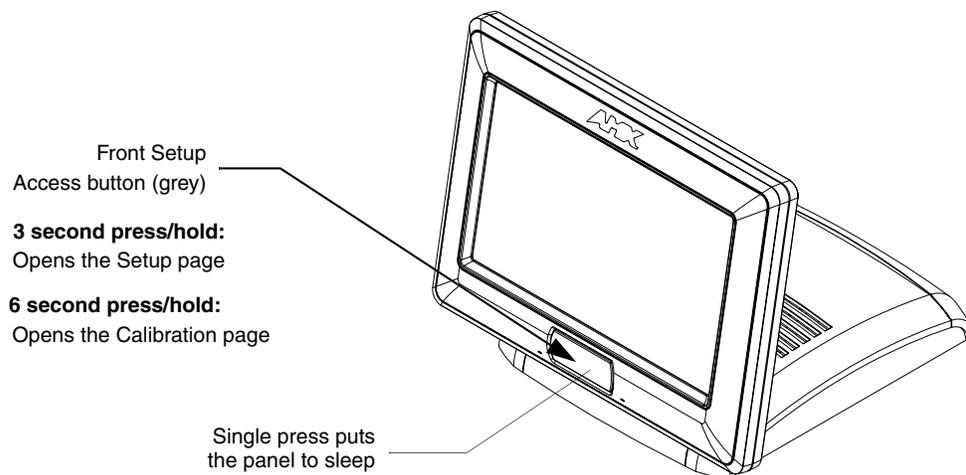
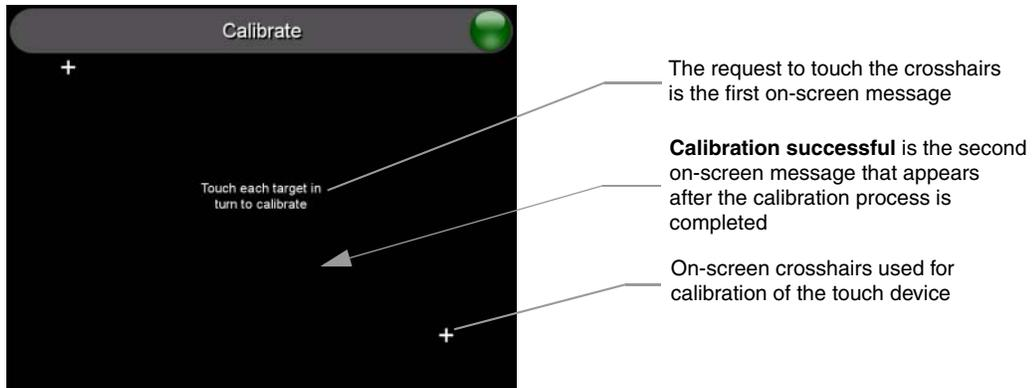

FIG. 44 Location of Front Setup Access button
FIG. 45 Touch Panel Calibration Screens
1. Press and hold the grey Front Setup Access button (FIG. 44) for **6 seconds** to pass-over the Setup page and access the Calibration setup page (FIG. 45).
2. Press the crosshairs (on the Calibration page) to set the calibration points on the LCD (FIG. 45).